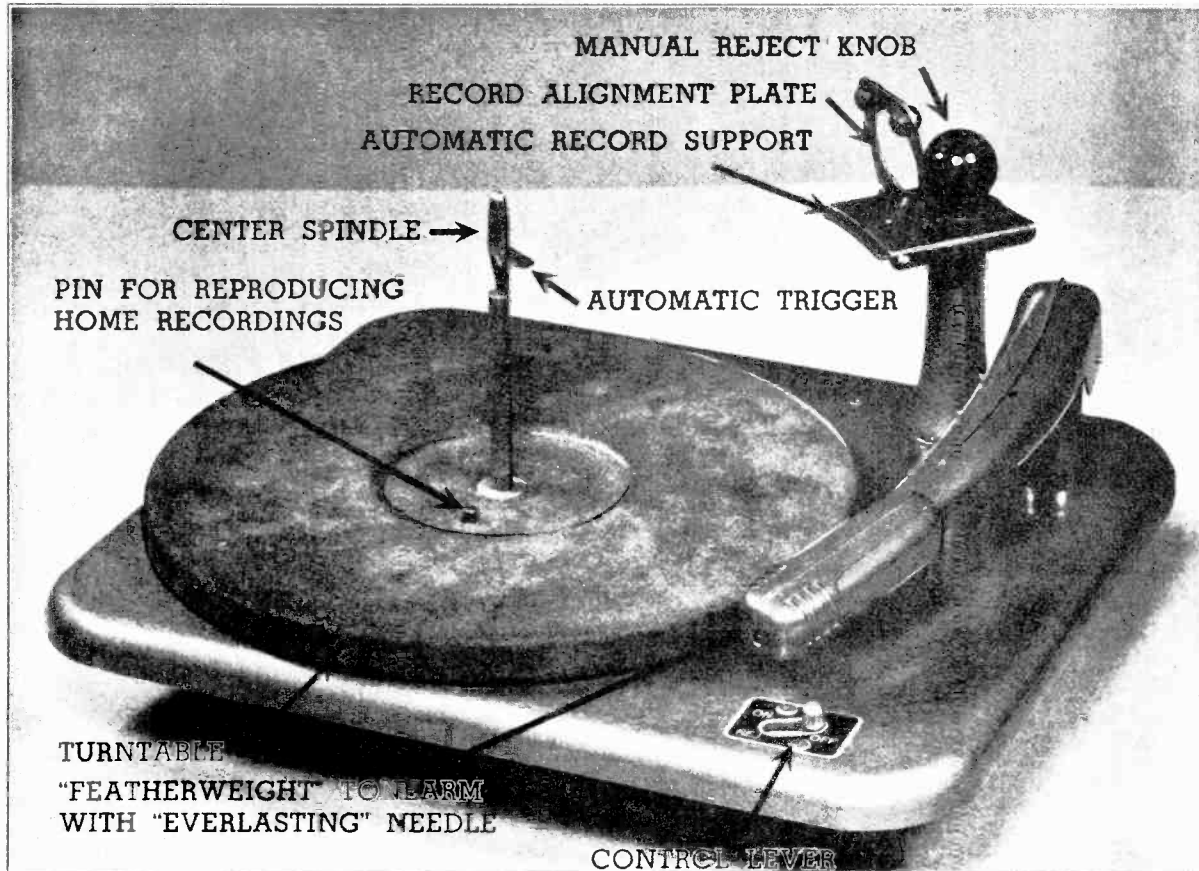

FIG. 2
2. **Tonearm** should be moved to engage notch marked "H" (home recording) on base of **tonearm** (See Fig. 2).